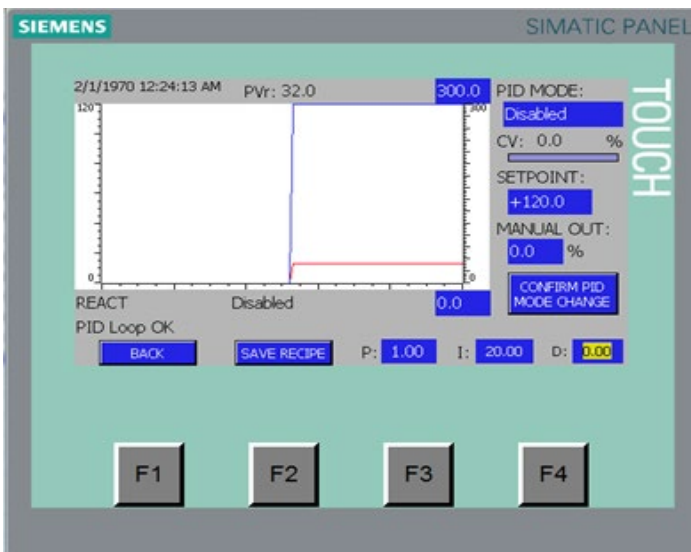

Figure 1.2
- 6.7 React PID Pressing F1 (REACT) while on the Process Set-up screen will navigate to this screen (figure 1.2). In the React PID screen the operator may adjust the reactivation temperature set-point (R_SP). To set the value Press ENTER. This temperature is in degrees Fahrenheit.